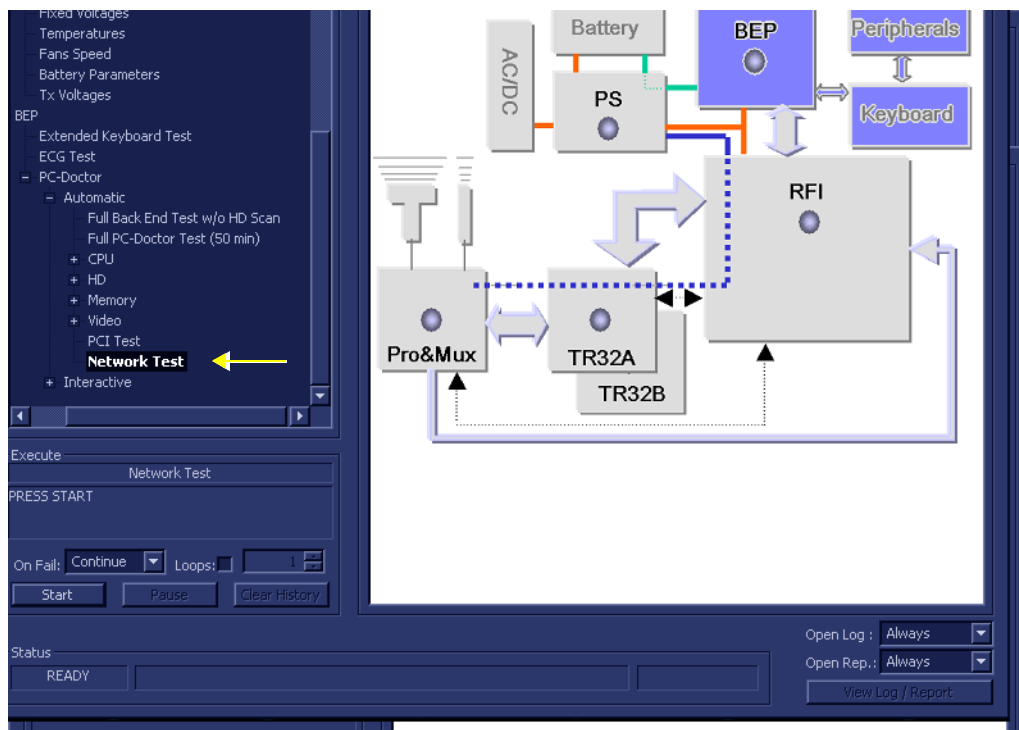

Figure 7-94 Network Test
- 1.) In the *Diagnostic Test* window, trackball to **Network Test** in the list of *PC Doctor* tests available for selection from the Diagnostic Test Tree (see Figure 7-94 below) and press **Set**. The Test name is displayed under *Execute*; the relevant system components to be tested are highlighted light blue in the Schematic View (BEP, Peripherals, Keyboard), as shown below: